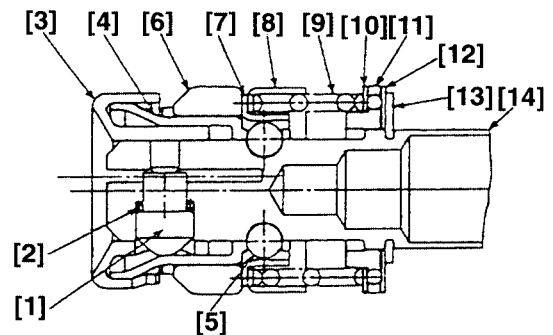

Fig. 8
#### (1) Reassembly of the blade mounting section (Figs. 8, 9 and 10)